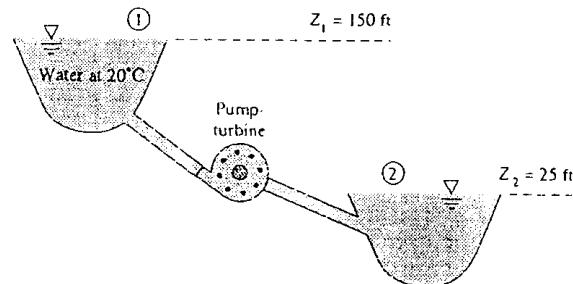

Fig. P3.135
**3.135** The *pump-turbine* system in Fig. P3.135 draws water from the upper reservoir in the daytime to produce power for a city. At night, it pumps water from lower to upper reservoirs to restore the situation. For a design flow rate of 15,000 gal/min in either direction, the friction head loss is 17 ft. Estimate the power in kW (a) extracted by the turbine and (b) delivered by the pump.